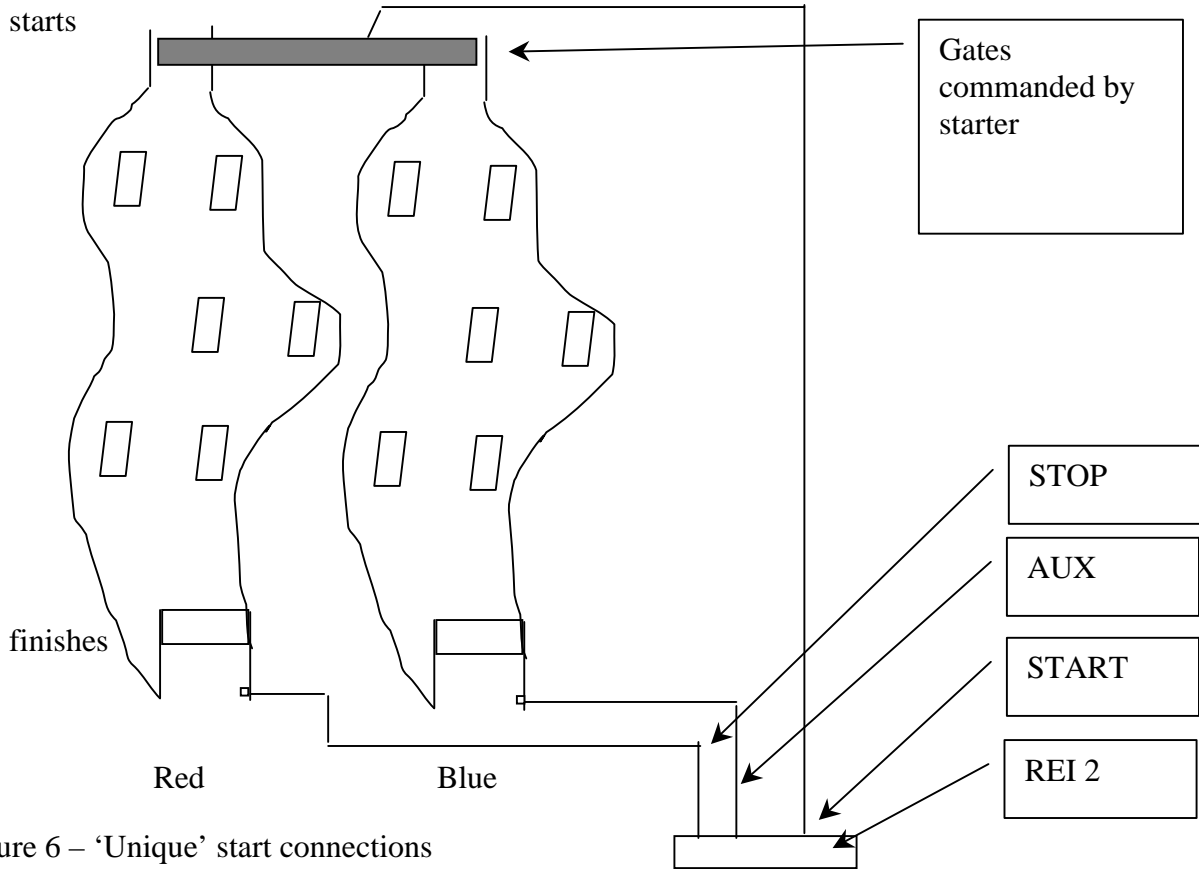

Figure 6 – 'Unique' start connections
- **Unique:** There is only one start signal for both the tracks while obviously the finishes remain independent. The start signal can be acquired when the special parallel slalom gates are opened. The time of the two competitors starts with a single signal. The time of the second run starts from the time of the first. See example in Figure 6